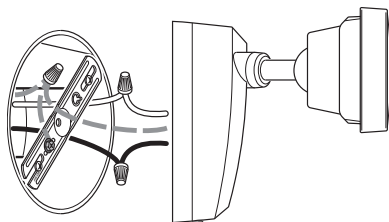

Figure 2
3. Connect all ground wires to the pigtail wire attached to the green ground screw (see Figure 2).
4. Twist the junction box wires and fixture wires together as shown. Secure with wire connectors (see Figure 2).